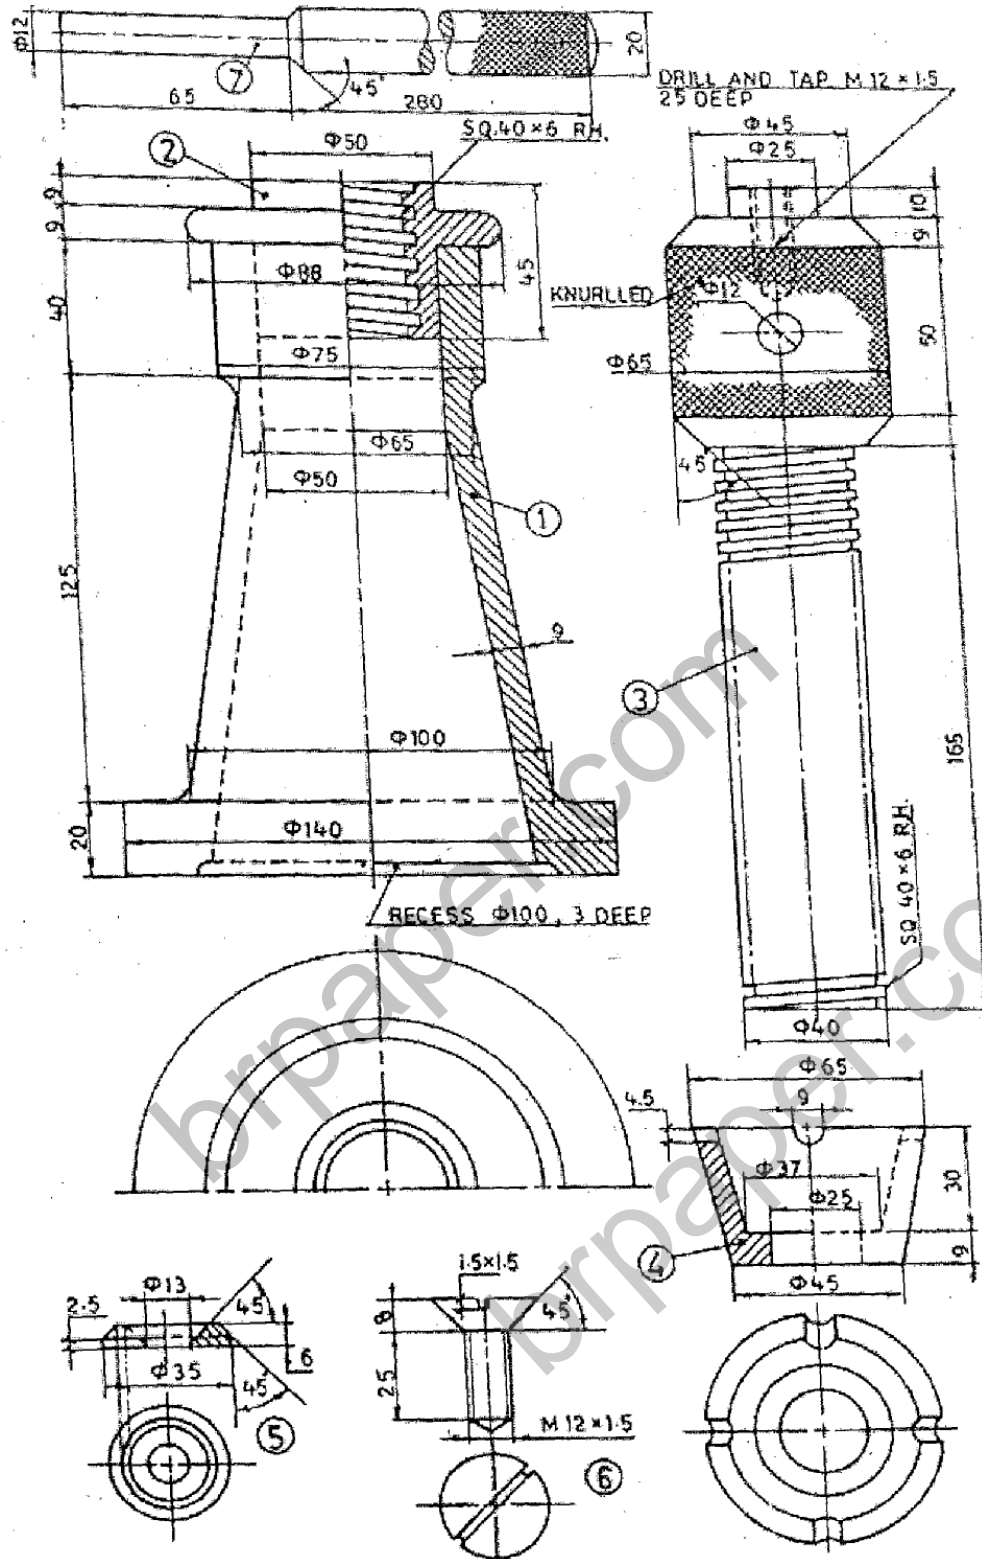

Fig 2. Detail of screw jack
7. Figure 2 show the detail of a screw jack. Assemble the given components and draw the front view (Left half in section) and top view of assembly.